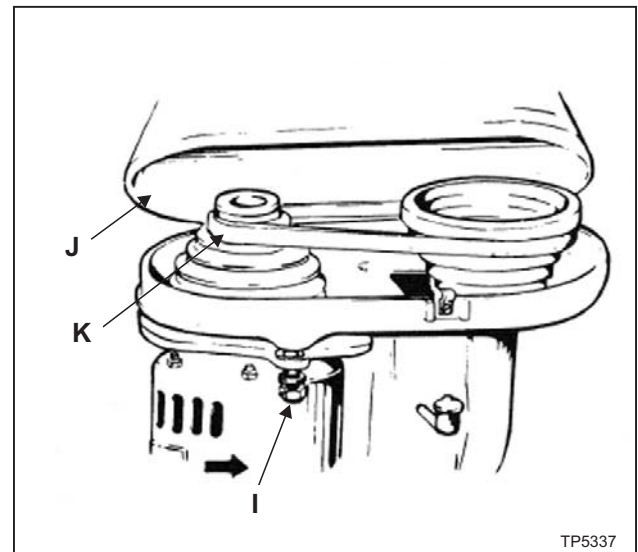

Figure 3.18 - E-Head Speed Adjustment
1. To change speed loosen the two hex nuts “I”, Figure 3.18, and move motor forward.